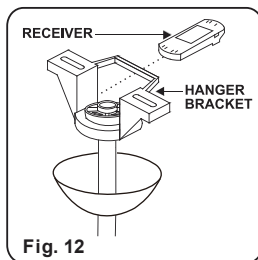

Fig. 12
Step 1. Insert Receiver into Hanger Bracket with the flat side of the Receiver facing the ceiling.(Fig.12)